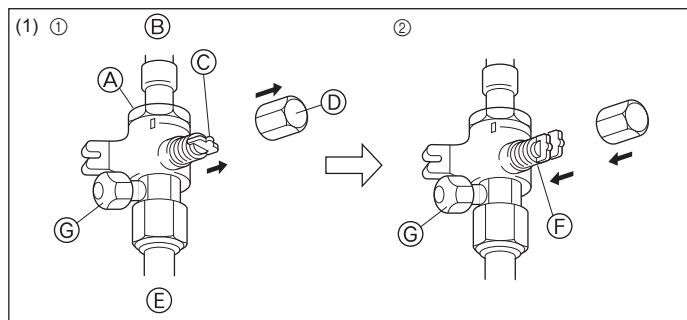
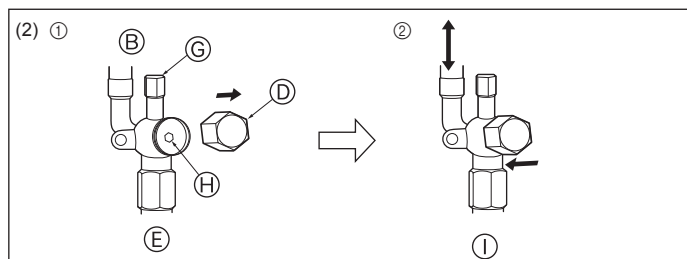

Fig. 4-6
Fig. 4-7
- (1) Gas side (Fig. 4-6)
- ① Remove the cap, pull the handle toward you and rotate 1/4 turn in a counterclockwise direction to open.
- ② Make sure that the stop valve is open completely, push in the handle and rotate the cap back to its original position.
- (2) Liquid side (Fig. 4-7)
- ① Remove the cap and turn the valve rod counterclockwise as far as it will go with the use of a 4 mm hexagonal wrench. Stop turning when it hits the stopper. (ø6.35: Approximately 4.5 revolutions) (ø9.52: Approximately 10 revolutions)